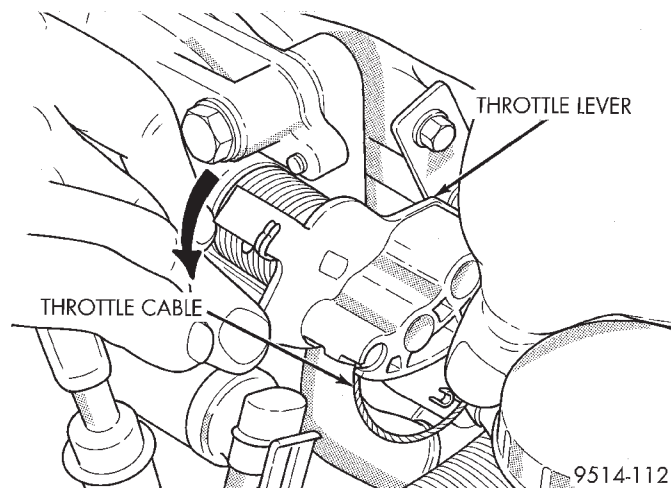

Fig. 42 Throttle Cable Attachment to Throttle Body
- (1) Working from the engine compartment, remove throttle cable from the throttle body lever (Fig. 42).